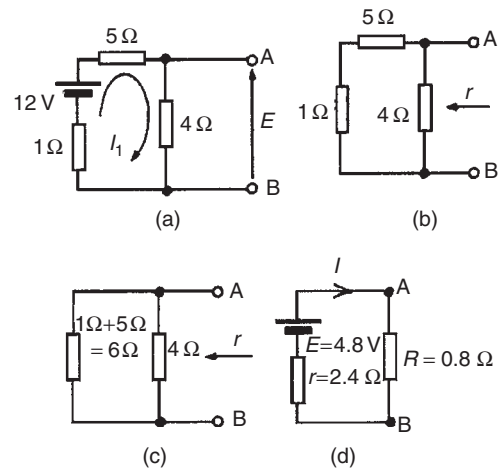

Figure 13.40
- (i) The 0.8 Ω resistor is removed from the circuit as shown in Fig. 13.40(a).
P.d. across 4 Ω resistor = $4I_1 = (4)(1.2) = 4.8$ V. Hence p.d. across AB, i.e. the open-circuit voltage across AB, $E = 4.8$ V
- (iii) Removing the source of e.m.f. gives the circuit shown in Fig. 13.40(b). The equivalent circuit of Fig. 13.40(b) is shown in Fig. 13.40(c), from which, resistance
- (iv) The equivalent Thévenin's circuit is shown in Fig. 13.40(d), from which, current